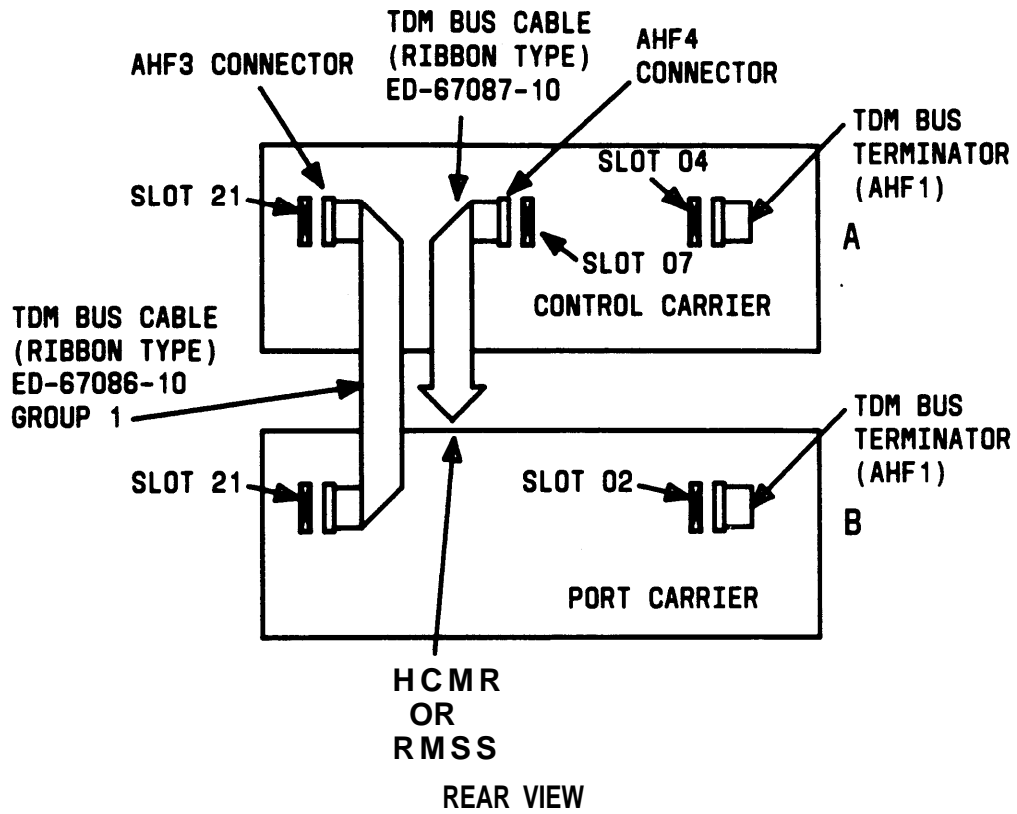

Figure 30. One-Port Carrier Configuration for System Cabinet—TDM Bus Wiring Diagram
9. Connect TDM bus cable to newly installed port carrier (Figures 30, 31, 32, or 33).